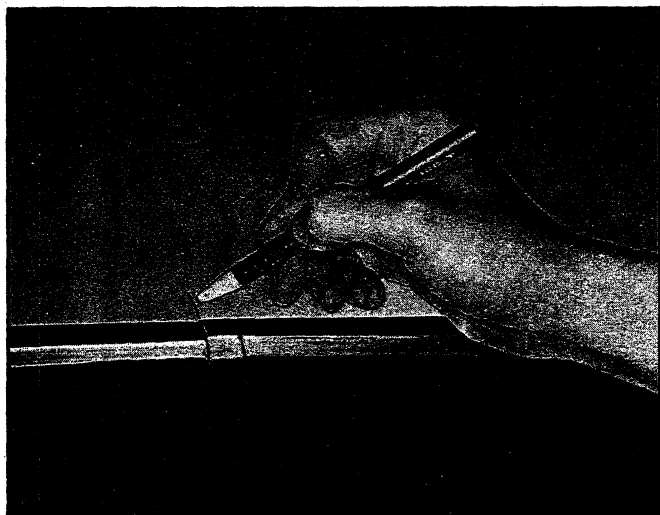

Fig. 85—Marking Molding Position
3. Mark position of right hand upper reveal molding end on top (fig. 85) and pry molding out of weatherstrip. Repeat on left hand molding.